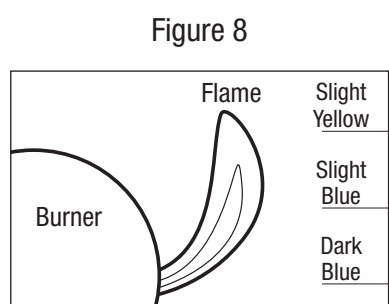

Figure 8
- After lighting, observe the burner flame. Make sure all burner ports are lit and flame height matches illustration (Figure 8).
- Burner will display tongues of blue and yellow flame. These flames should not be yellow or produce thick black smoke, indicating an obstruction of airflow through the burners. The flame should be blue with straight yellow tops (Figure 8).